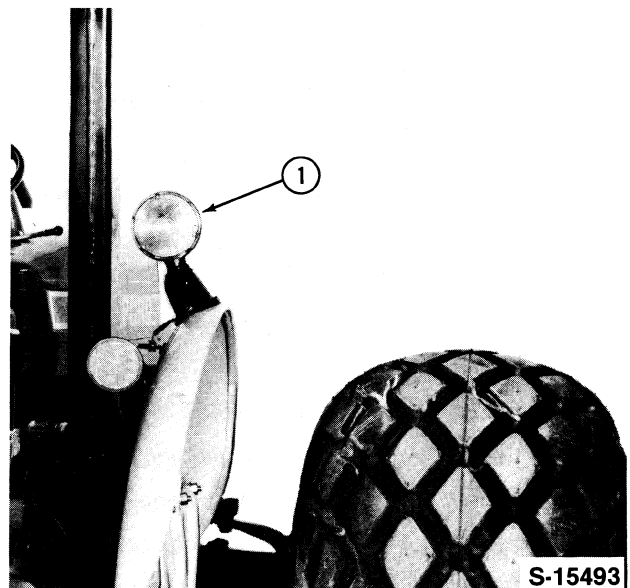

Figure 4
Your new Ford Tractor is equipped with a flashing warning light, Figure 4. Push the switch on the lamp housing, Figure 4. Push the switch on the lamp housing to turn the light on or off. The light switch (10), Figure 5, must be on before the flasher will operate.